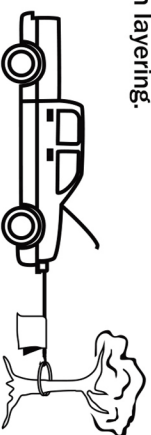

Figure 4
- j. When you have attached the hook to the load, it is important to place a wire dampener / blanket / heavy coat over the wire, near the hook end, so that in the event of a hook / rope / attachment point failure, the energy of the rope is directed towards the ground and will help to prevent serious injury or damage. SEE FIGURE 4.